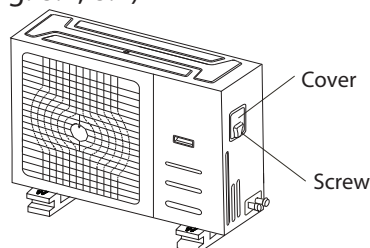

Fig. 8.1
2. Remove the electric cover of the outdoor unit. If there is no cover on the outdoor unit, disassemble the bolts from the maintenance board and remove the protection board. (See Fig. 8.1, 8.2)